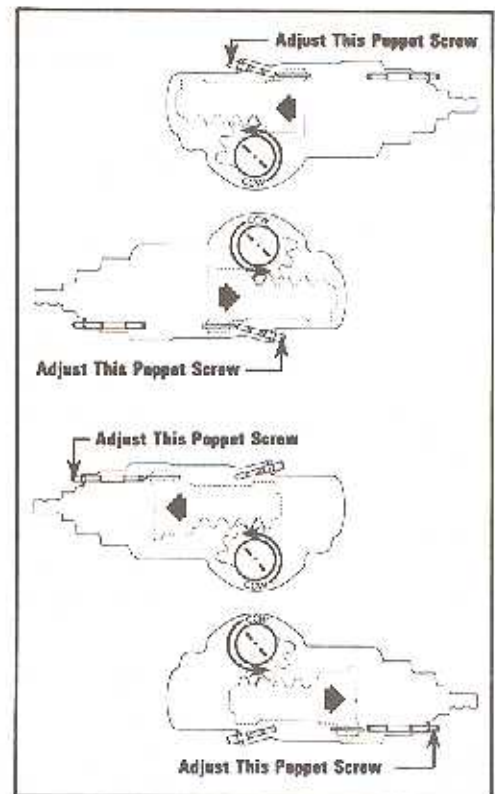

Figure 38
- 4.3 With the engine at idle, have someone turn the steering wheel to full lock, (axle against axle stop) while you observe the rotation of the sector shaft (46). SEE FIGURE 38. If the sector shaft rotates counter-clockwise as shown, adjust the poppet adjusting screw identified in the appropriate view shown in figure 38. If the sector shaft rotates clockwise, adjust the other poppet adjusting screw.